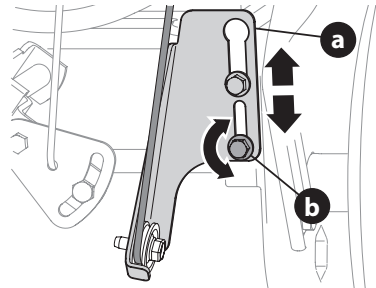

Figure 51
2. Loosen lower hex screw (a) on drive cable bracket (b) (Figure 51).